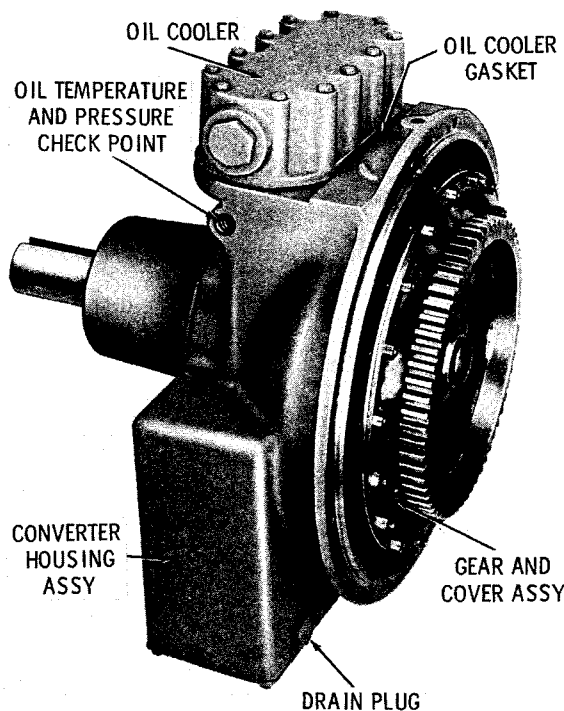

Fig. 7-13. Exterior components of TC 200 converter assembly
a. Drain Plug. If the oil drain plug (fig. 7-13) and gasket at the front of the converter housing was not installed, install and tighten it.